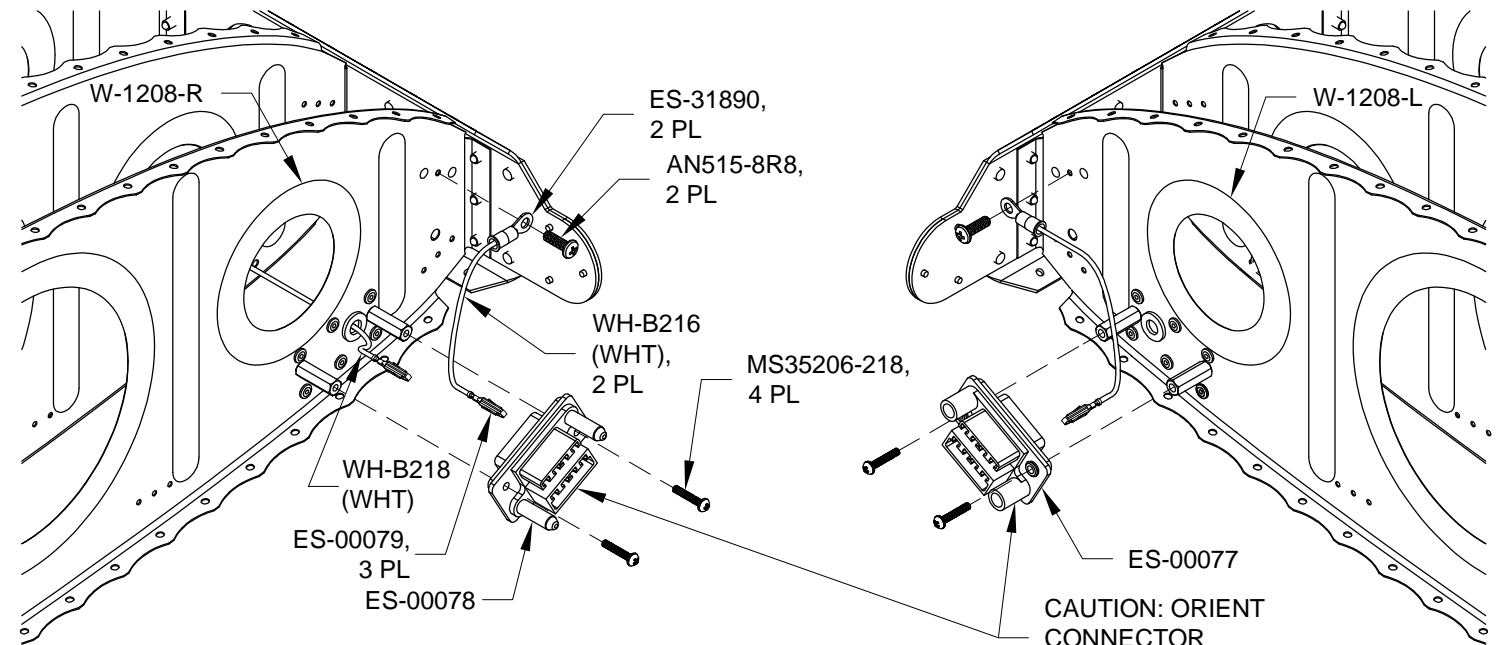

FIGURE 2: LEFT & RIGHT WING CONNECTOR EXPLODED VIEW
Strip the other end of each terminal ground wire and crimp an ES-31890 Ring Terminal onto each as shown in Figure 2.
Install the ring terminal ends to the W-1208 Nose Ribs as shown in Figure 2.
Install the connector pin ends of each terminal ground wire to the floating 8 pos connectors as shown in Figures 2 & 3.
Step 4: Attach the ES-00078 Floating 8 Pos Connector Male and ES-00077 Floating 8 Pos Connector Female to the ES-00081 Standoffs as shown in Figure 2.